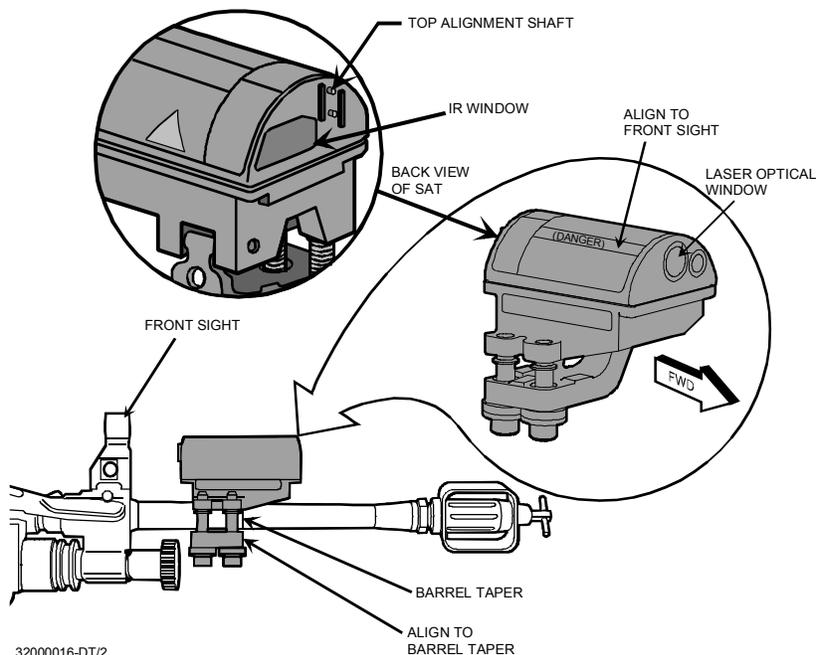

Figure 2-9. M249 SAT.
2.3.1.3.3 M249 SAT Installation. (See Figure 2-9.)